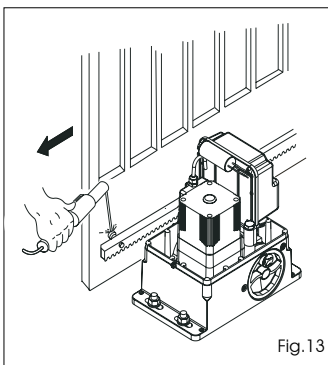

Fig.13
- 3) Lay the first section of rack level on the pinion and weld the threaded pawl on the gate as shown in Fig. 13.